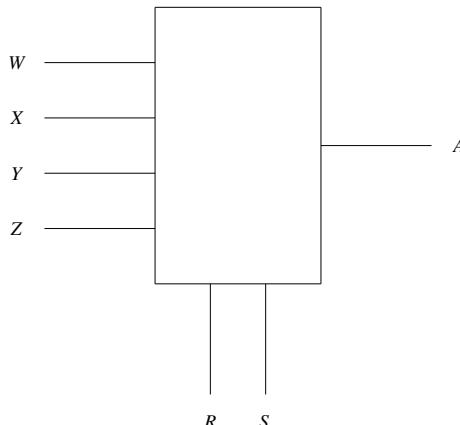

Fig. 4.14
24. Consider the 2-bit multiplexer (MUX) shown in Fig. 4.14. For output to be the XOR of R and S , the values for W, X, Y and Z are _____. (GATE EC-2022)